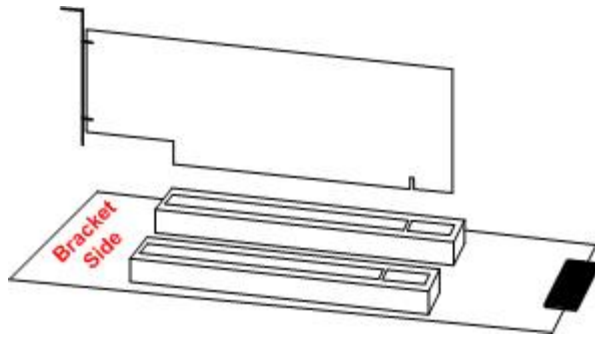

Figure 6: Inserting add-in card into PCI Flex Adapter
- Locate your expansion add-in card such way that its bracket will be on the same side as bracket side of PCI Flex Adapter (opposite from black power Molex connector) (see Figure 6). **CAUTION:** If your add-in card has not bracket connected to it, be sure that you properly detect right direction for your add-in card.